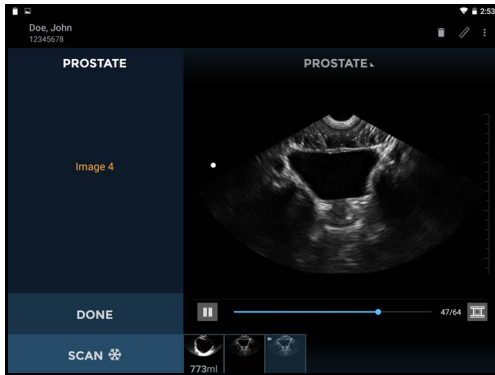

FIGURE 32. Saved movie clip
- ★ Tap the **Movie**  icon to save up to 16 seconds of the ultrasound scan as a movie clip (see FIGURE 32. Saved movie clip).